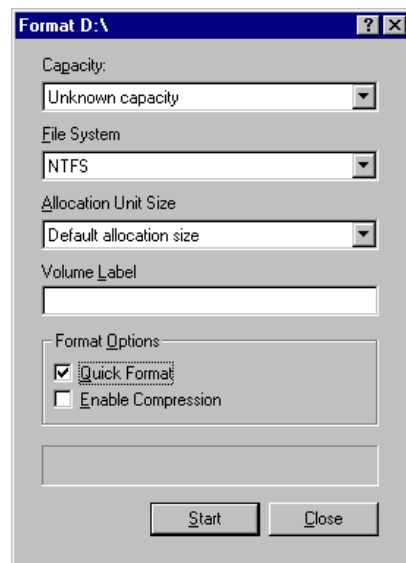

Figure 007
23. The *Format D:* window is displayed. Change the *File System* from FAT to NTFS and check the *Quick Format* box. Then click *Start* (see Figure 007).